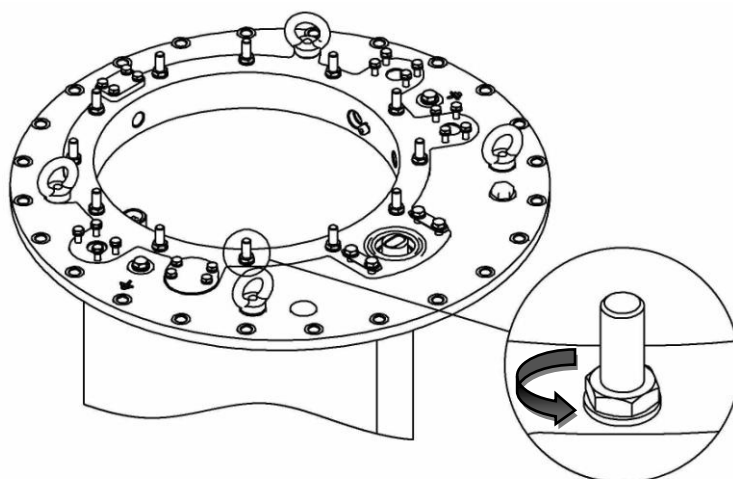

Fig.23 – View from the shield of the twelve M12 nuts
6.16. Screw the M12 nuts (40Nm torque) and the washers on the twelve studs that have appeared above the level of the carrying shield. See Fig. 23.